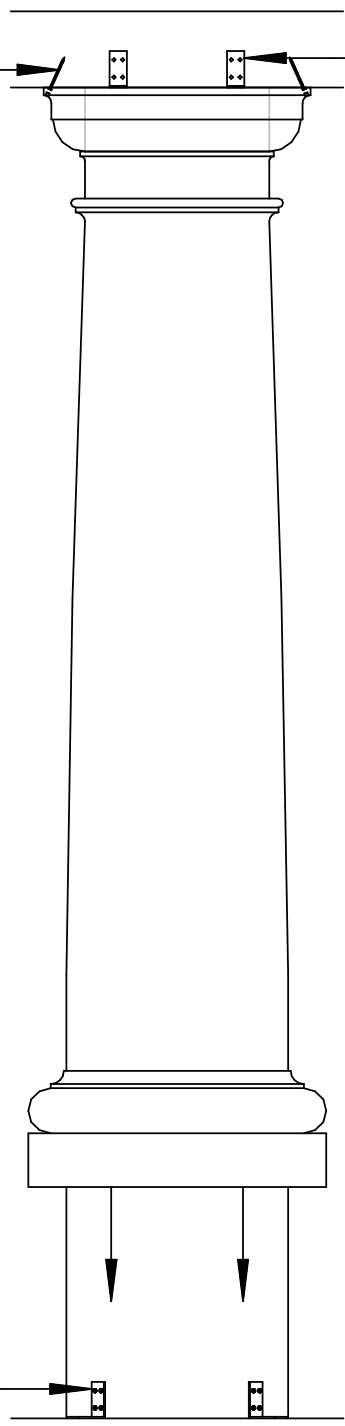

Figure 1
- **Step 2:** Now that the column is in place, align the capital at the top of the shaft and attach it to the soffit using Simpson Strong-Tie “L” brackets **OR** mechanical fasteners; see **Figure 1** below.
- **Step 3:** The bottom of the shaft is attached to the substrate using the same “L” brackets as mentioned before; see **Figure 1** below.